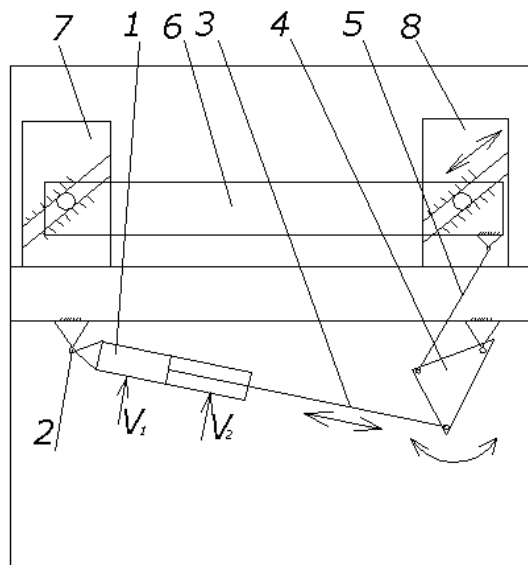

Figure 4. Kinematic mechanism of knife drive
The driving mechanism for the knife is shown in Figure 4. Hydraulic Double-acting Cylinder/Actuator (1) is fixed on the Knuckle (2). Piston Rod (3) is connected with the Levers (4), which are connected with Connecting Rod (5), which pull Knife Beam (6) together with the knife.